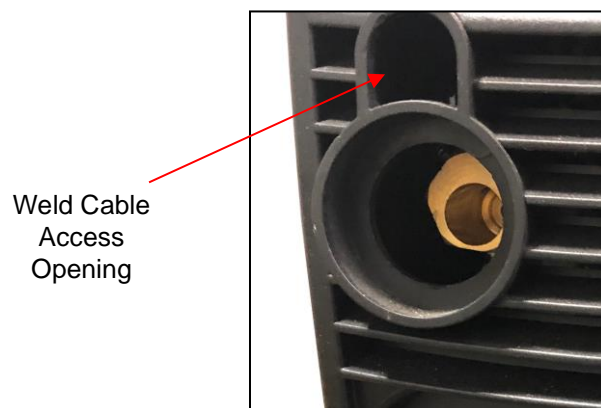

Figure 10
4. Carefully slide the gas connector and the weld power connection through the weld cable access opening in the front of the machine (Figure 10).